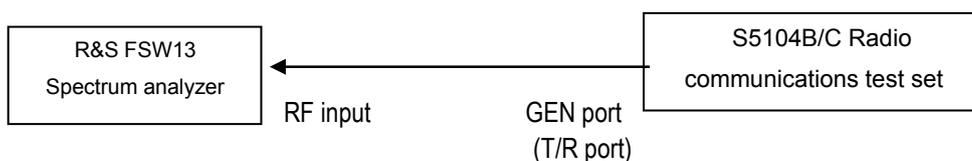

Fig. 6-8 Block diagram for RF signal generation power characteristics test
1) Test the RF signal generation power of the GEN port. As shown in Fig. 6-8, connect the GEN port of S5104B/C with the RF input port of the spectrum analyzer.
1) As shown in Fig. 6-8, connect the GEN port of S5104B/C to the RF input port of the spectrum analyzer; set 4S5104B/C to the RF TX mode with the output frequency of 1 MHz and the amplitude of 0 dBm; set the start frequency of the spectrum analyzer to 1 MHz, and the reference level to 10 dBm;
1) As shown in Fig. 6-8, connect the RF input of the spectrum analyzer to the GEN port of S5104B/C, set S5104B/C to the RF TX mode with the output frequency of 1.05 GHz, the amplitude of -10 dBm, the modulation format of FM, the modulation rate of 20 Hz and the frequency deviation of 5 kHz;
1) As shown in Fig. 6-8, connect the RF input of the spectrum analyzer to the GEN port of S5104B/C, set S5104B/C to the RF signal TX mode with the output frequency of 1.05 GHz, the amplitude of -10 dBm, the modulation format of AM, the modulation rate of 20 Hz and the frequency modulation depth of 30%;
1) As shown in Fig. 6-8, connect the RF input of the spectrum analyzer to the GEN port of S5104B/C, set S5104B/C to the RF TX mode with the output frequency of 1.05 GHz and the amplitude of -10 dBm;